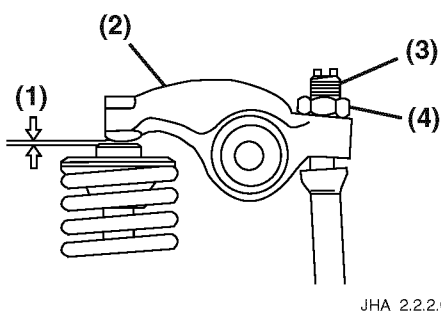

Figure 4-11
6. Insert a feeler gauge between the rocker arm (**Figure 4-11, (2)**) and the top of the valve.
7. Measure the clearance (**Figure 4-11, (1)**) and compare to specification.
9. If adjustment is required, loosen the locknut (Figure 4-11, (4)) and turn the adjusting screw (Figure 4-11, (3)).